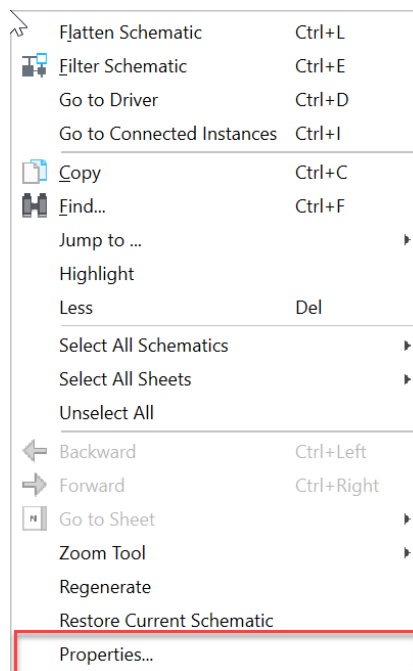

Figure 3.23. Properties Option
- Selecting **Properties** option, shown in Figure 3.23, provides detailed information about the selected net, including its Fan-out (the number of loads connected to the net), and the specific pins connected to the net. This information is valuable for comprehensive analysis and optimization.